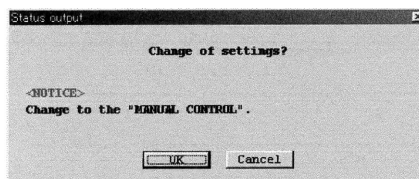

Fig.41
- ⑥ After filling in all the fields required, click in "OK" button. A message box as shown in Fig. 41 then appears.